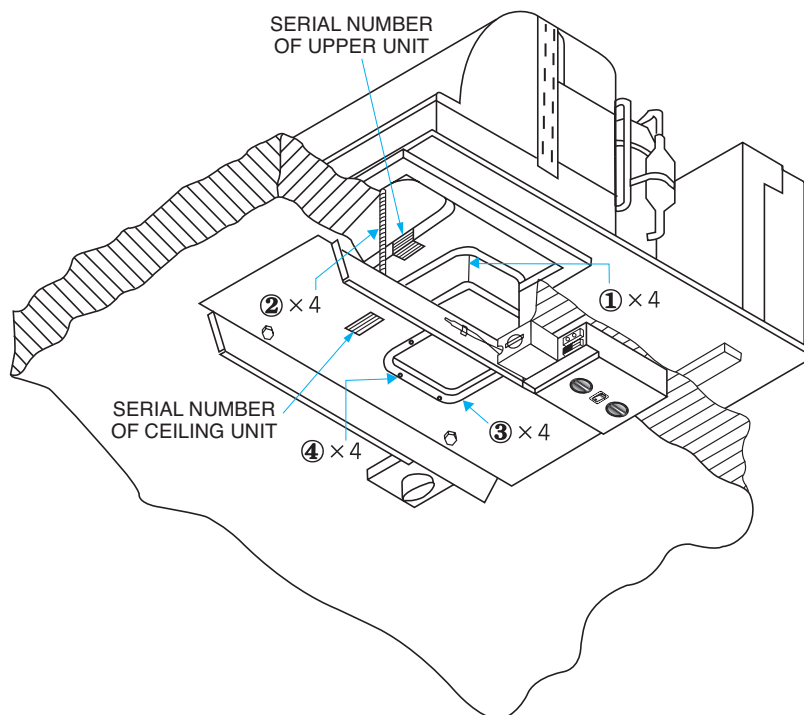
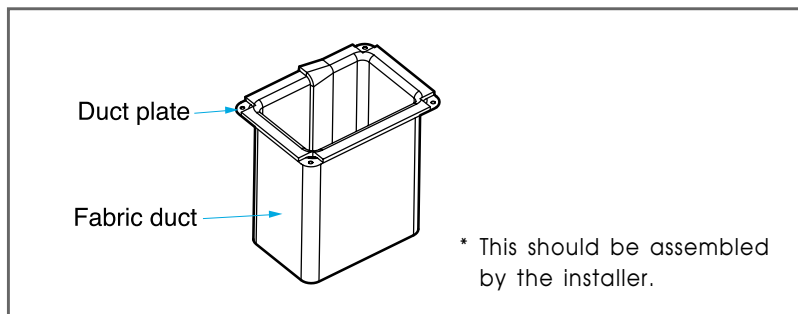

Figure 4
Figure 4-1
- 3** Before the ceiling assembly can be mounted to the roof top air conditioner, the fabric duct collar must be fastened to the basepan of the air conditioner with 4 screws (See ①, Figure 4 and Figure 4-1).
- 6** Secure the ceiling assembly frame to the roof top air conditioner with the mounting bolts (See ②, Figure 4). You must start (thread) the mounting bolts* by hand to avoid cross-threading. DO NOT START THE MOUNTING BOLTS WITH AN AIR GUN. The mounting bolts should be tightened evenly. Do not over-tighten each bolt. The bolt tightening process is complete when the basepan gasket has been evenly compressed to 60%.
- 7** Pull the fabric duct collar through the ceiling assembly frame opening and pull the four corners to extend below the duct opening (See ③, Figure 4).
- 9** Fasten each side of the fabric duct with fitting the duct plate to the ceiling assembly plate with 4 screws (See ④, Figure 4). Trim any excess fabric that may extend beyond edge of duct plate.